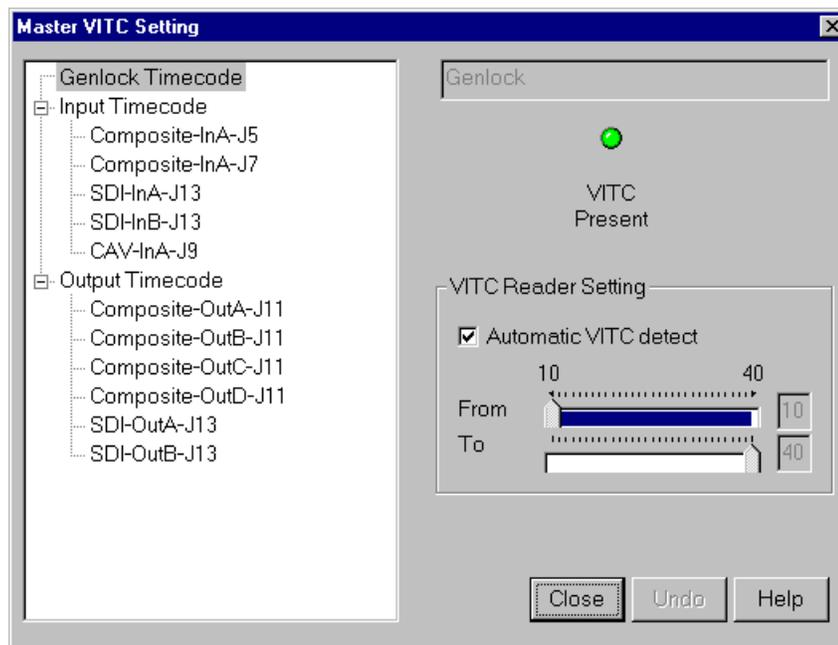

Figure 14. Master Timecode dialog box, genlock settings
1. Choose **Options | Master Timecode** or click the **Master Timecode** button on the toolbar. The Master VITC Setting dialog box appears (Figure 14).